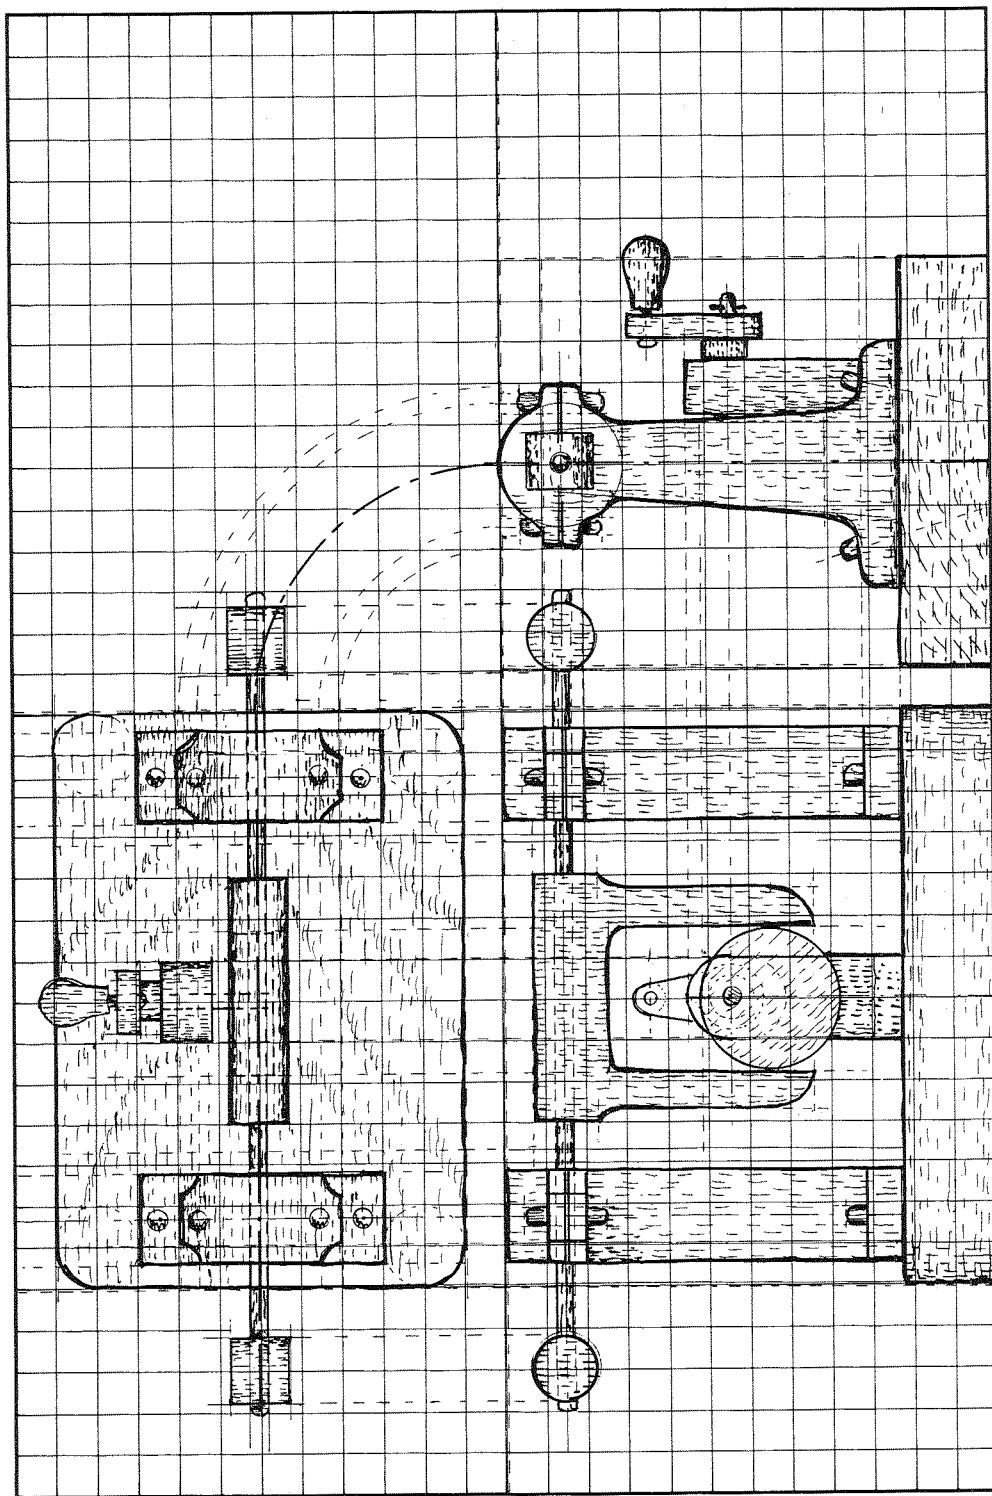
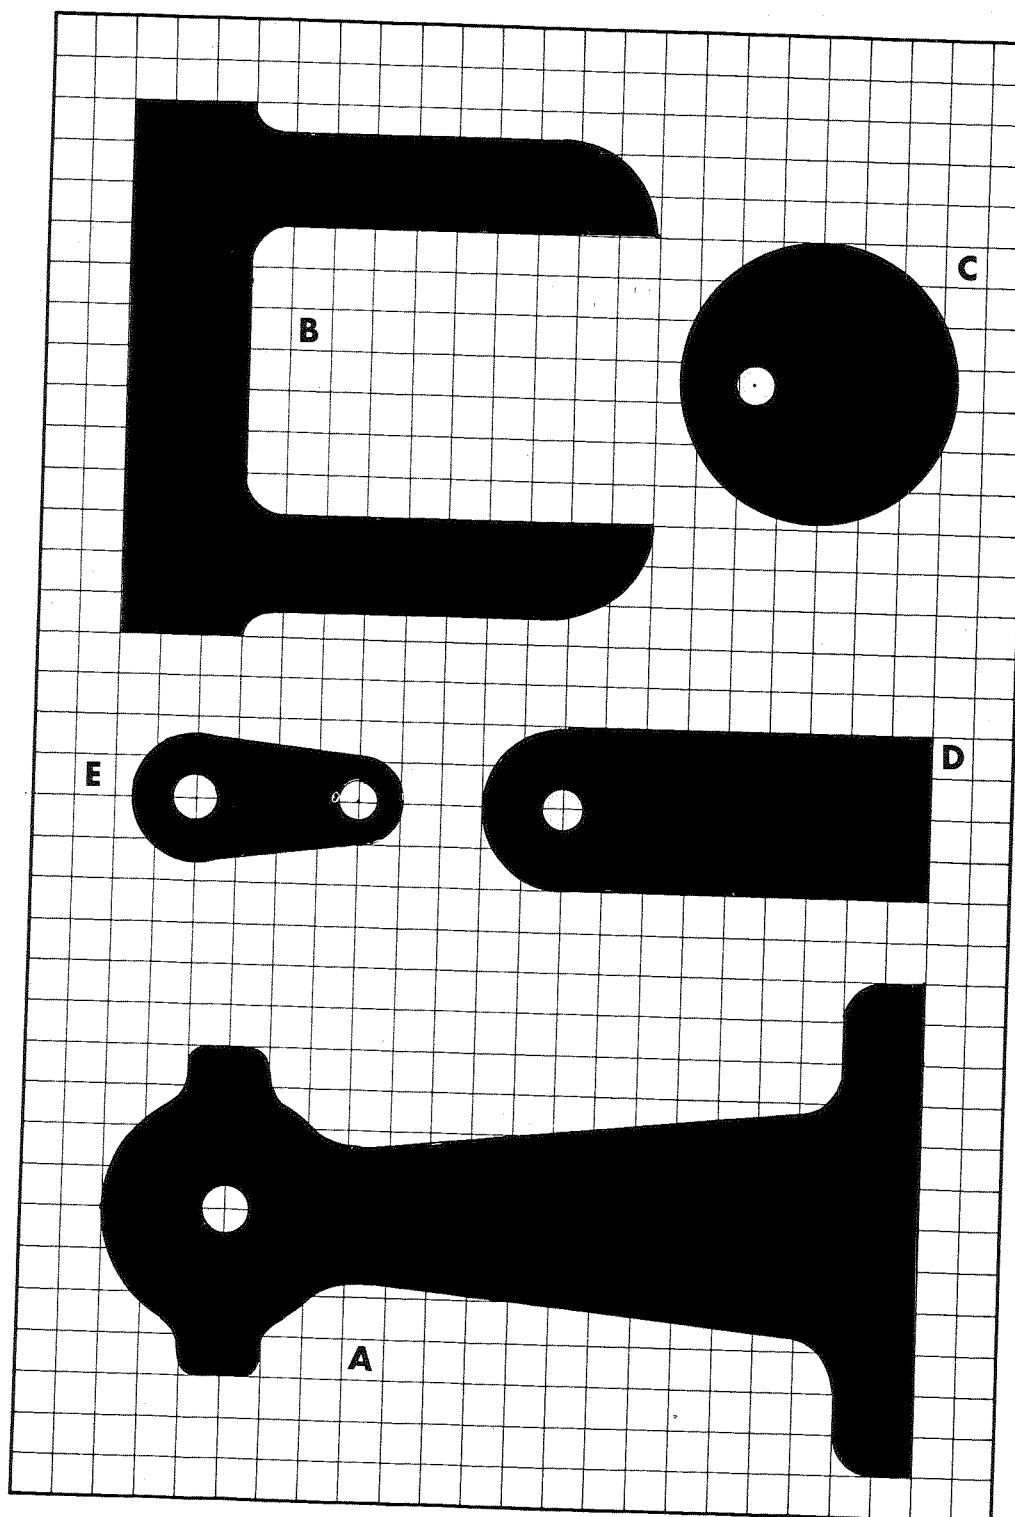

FIGURE 3-1A
FIGURE 3-1B
Have a look at the project picture (above), the working drawing (Fig 3-1a) and the template design (Fig 3-1b),
Prior to cutting the various profiles from your chosen wood, be sure to study the working drawing (Fig 3-1a) and template design (Fig 3-1b), and take note of the direction of the grain.
2 Set the compasses/dividers to $\frac{1}{2}$ " radius, and scribe out the 1"-diameter circles that make up the design of the corner curves (Fig 3-1a). Use the tools of your choice to cut the wood to shape and size.
1 Have a look at the working drawing (Fig 3-1a) and template design (Fig 3-1b), and see that the controls, meaning the parts you turn, are made up of a fixed post, crank, crank handle, crank handle pin, or
- 1** Take a $\frac{1}{4}$ "-thick piece of cherry offcut and use a pencil, ruler and pair of compasses to draw the shape of the crank and the little washer spacer. Plan on the crank being about 1" between centers (Fig 3-1b).
- 1** If you have a look at the working drawing (Fig 3-1a) and template design (Fig 3-1b), you will see